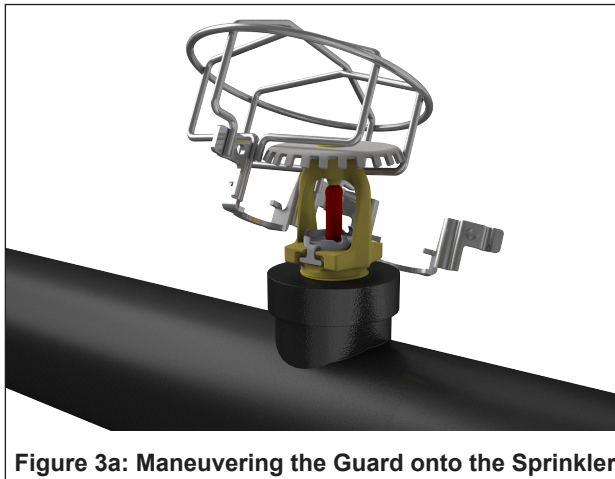

Figure 3a: Maneuvering the Guard onto the Sprinkler
**NOTE:** For Upright sprinklers, the guard must be oriented and angled as shown (Figure 3a) in order to get the deflector inside the frame.